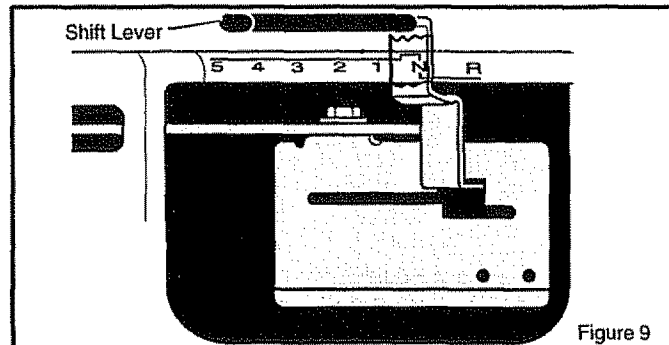

Figure 9
3. To move the **shift lever** to neutral (N) from a forward gear, pull the **shift lever** back and then move to the right (Figure 9).
4. To move the **shift lever** to a forward gear from neutral (N), pull the **shift lever** to the left and then push the **shift lever** forward.
7. To move the **shift lever** to reverse, stop the unit. Move the **shift lever** back to reverse (R).